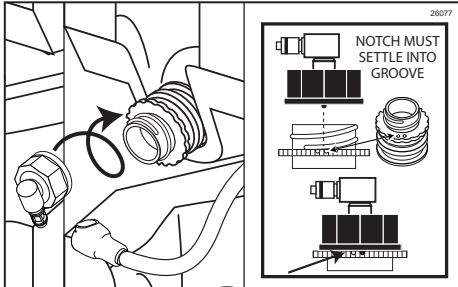

Figure 165
11. Attach the Syrup Bag Adapter to the bag fitment. The notch of the black collar must settle into one of the grooves on the fitment in order to secure the connection. (See Figure 165.)